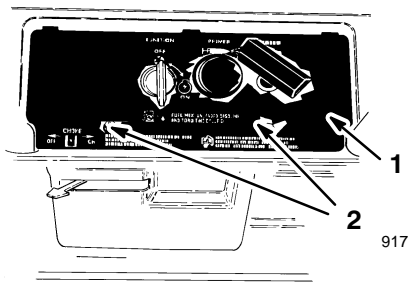

Figure 14
1. Remove the two screws that secure the control panel to the housing (Fig. 14).